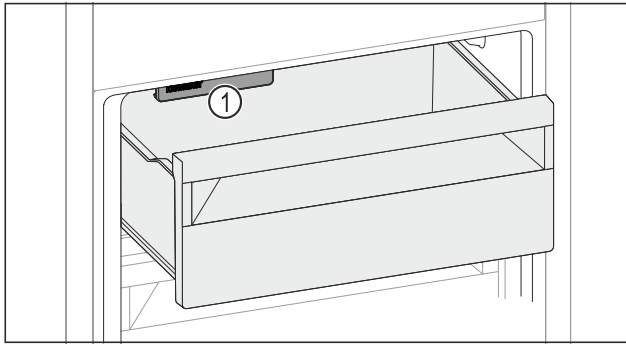

Fig. 142
- ▶ Huomioi IceMaker Fig. 142 (1).